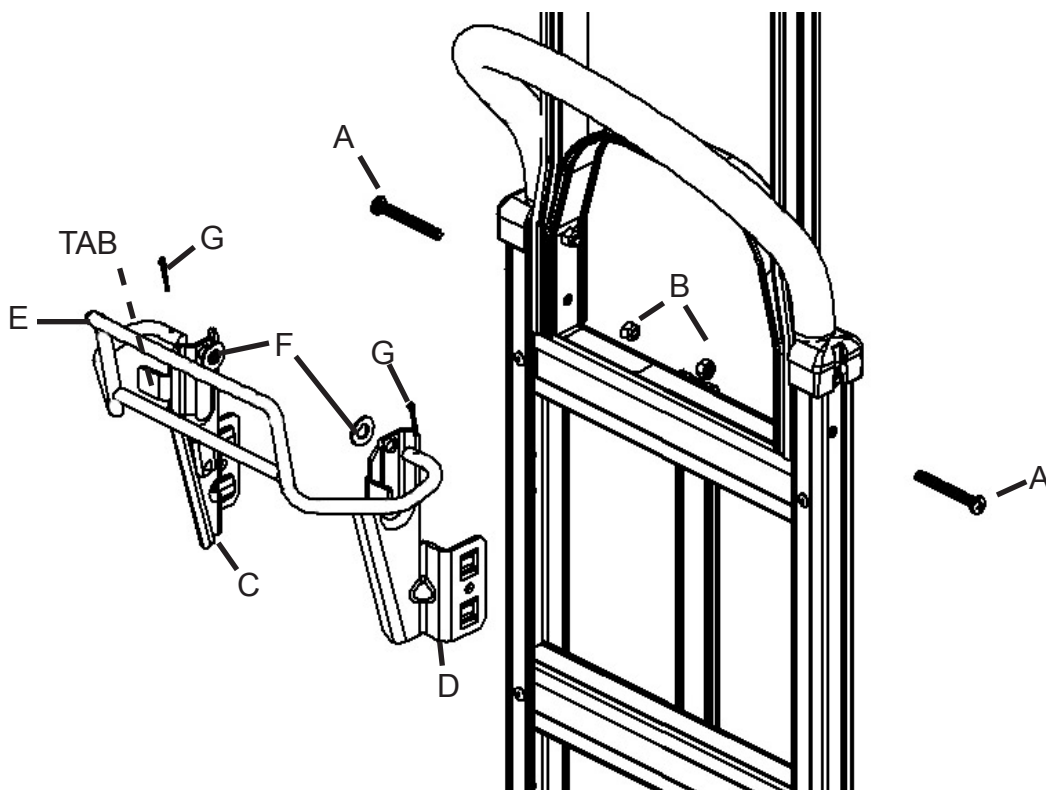

Figure 5
2. Position the LH handle mounting bracket (C) as illustrated with the tab (TAB) facing away from center of the truck and secure it with a 1/4" x 2 1/4" long pan head machine screw (A) and locknut 1/4"-20 (B) as illustrated in Figure 5.
3. Slide the loop handle actuator (E) through the hole in the mounted LH handle mounting bracket and the RH handle mounting bracket (D). With the actuator handle resting on the tabs of the mounting brackets, assemble the RH mount to the side rail using a 1/4" x 2 1/4" long pan head machine screw (A) and locknut 1/4"-20 (B) as shown. Securely tighten the mounting screws using the #2 Phillips head screwdriver and the 7/16" wrench.
4. Slide a 3/8" washer (F) on each end of the loop handle actuator and install a cotter pin (G) in the holes provided. Using the needle nose pliers bend the end of the cotter pins to keep secure.